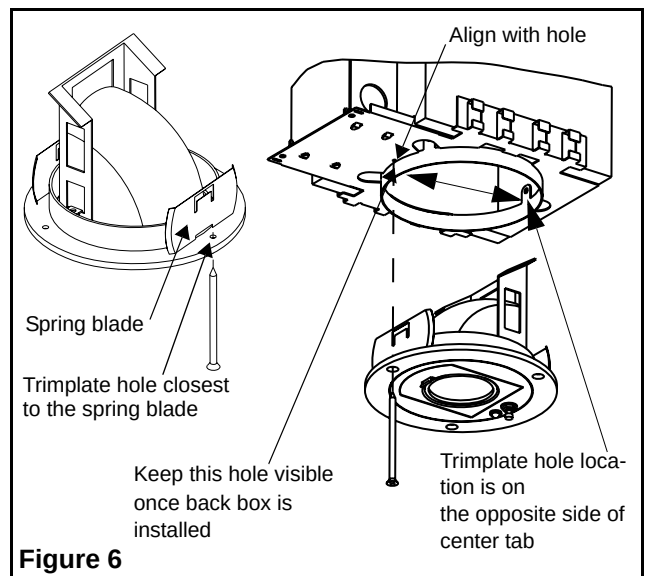

Figure 6
- To install the light unit, first look inside the hole in the ceiling, there are three tabs just above the round lip. Use the tab that is centered in the box as a reference (the one further from the two others) as shown in figure 6. Then, on the light unit, locate the trimplate hole that is the closest to the spring blade. Align this hole to the opposite side of the center tab. Squeeze the two spring blades to insert the light into the back box until it snaps.
- Use the three self-drilling screws to fix the light in this position, starting with the screw shown in fig. 6. For suspended ceilings, hold box in place by removing an adjacent ceiling panel.